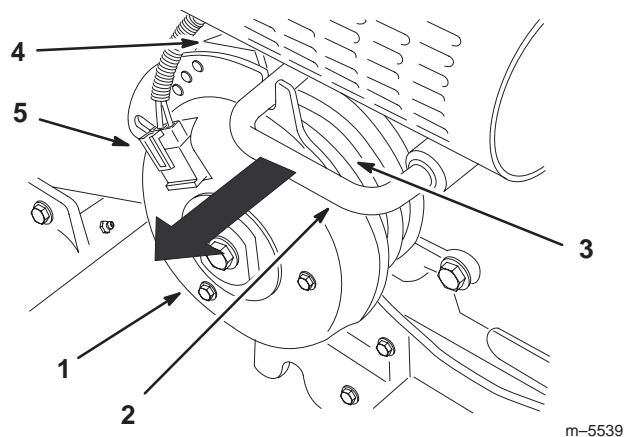

Figure 30
4. Unplug the clutch connector (Fig. 30).
5. Pull the PTO stop out of the clutch (Fig. 30).
6. Rotate the clutch to allow space between the belt guide and the clutch. This will allow the belt to be installed onto the pulley (Fig. 30).
7. Replace the belt and install new belt into the inside pulley (Fig. 30).
8. Install the PTO stop back into the clutch (Fig. 30).
9. Install the clutch connector (Fig. 30).